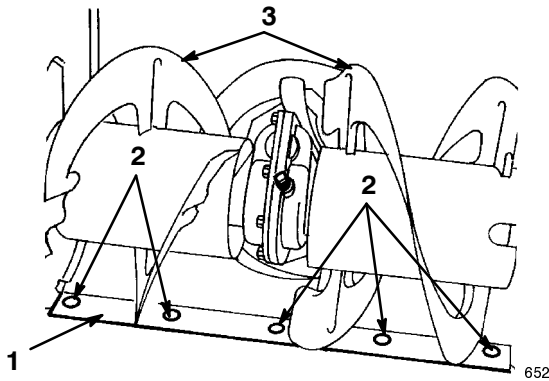

Figure 25
- Support the **auger blades** so that they are 1/8 inch (3 mm) off the ground (Fig. 25).
- To adjust the scraper, loosen the five mounting screws (Fig. 25), level the blade, and tighten the mounting screws.